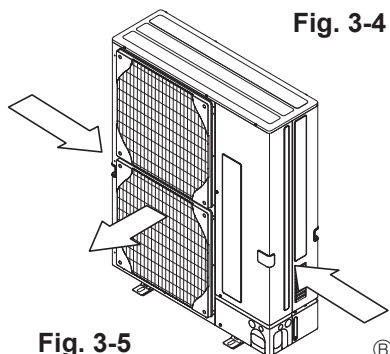

Fig. 3-5
- Position the unit so that the air outlet blows perpendicularly to the seasonal wind direction, if possible. (Fig. 3-5)
(2) When installing a single outdoor unit (Refer to the next page)